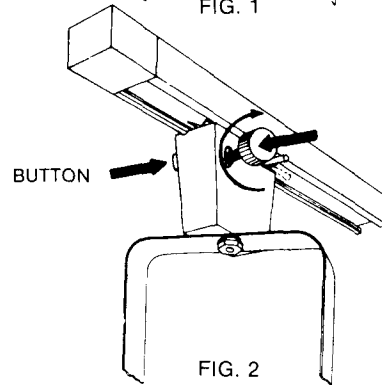

FIG. 2
3. To attach FITTING, squeeze BUTTON and KNOB, insert into LYTESPAN TRACK, and release. Tighten TURN KNOB. This holds FITTING to LYTESPAN TRACK mechanically. To energize turn LEVER all the way until LEVER is parallel to LYTESPAN TRACK. See Fig. 2.
5. To remove fixture reverse the procedure in (3), push TURN KNOB in and allow FITTING to disengage.